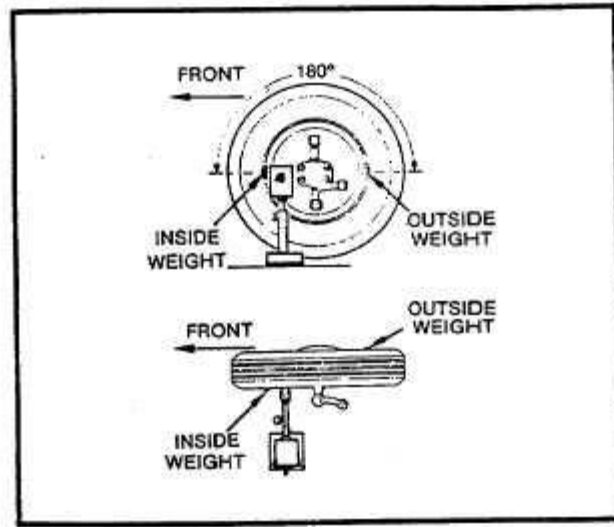

Figure 12. Dynamic Split Weight Installation
8. Brake wheel. Rotate wheel until reference mark is in location noted in step 7 above. Place a three (3) ounce weight on the most forward point of the inside rim. Place 3 ounce weight on the outside rim, 180S from the first weight. See figure 12.